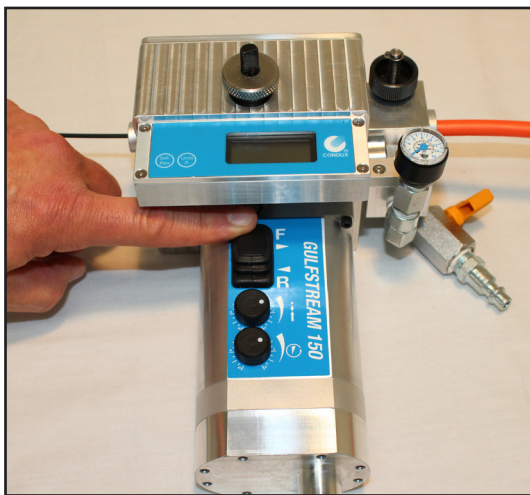

Figure 16. Tractor Drive Forward
B. Engage Tractor Drive – The tractor drive can be operated in forward and reverse. For installation, engage the tractor drive in forward by depressing the tractor drive control switch to the “F” position as shown. (See figure 16). Install the fiber into the duct using push only until the installation has slowed.